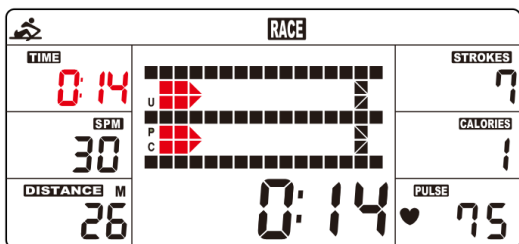
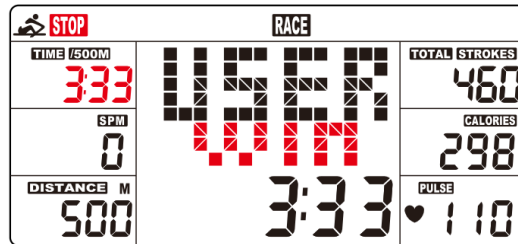

Fig. 5
Fig. 6
- Press START button to start and STOP will disappear. The USER & PC will display in the matrix (Fig. 5). The meter will stop when either the user or meter has reached the race distance that was set. Then the matrix displays "PC WIN" or "USER WIN"(Fig. 6).